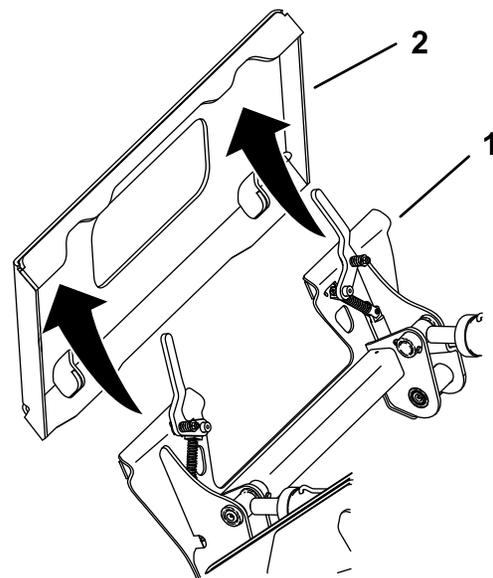

Figure 29
5. Position the mount plate into the upper lip of the attachment receiver plate (Figure 29).